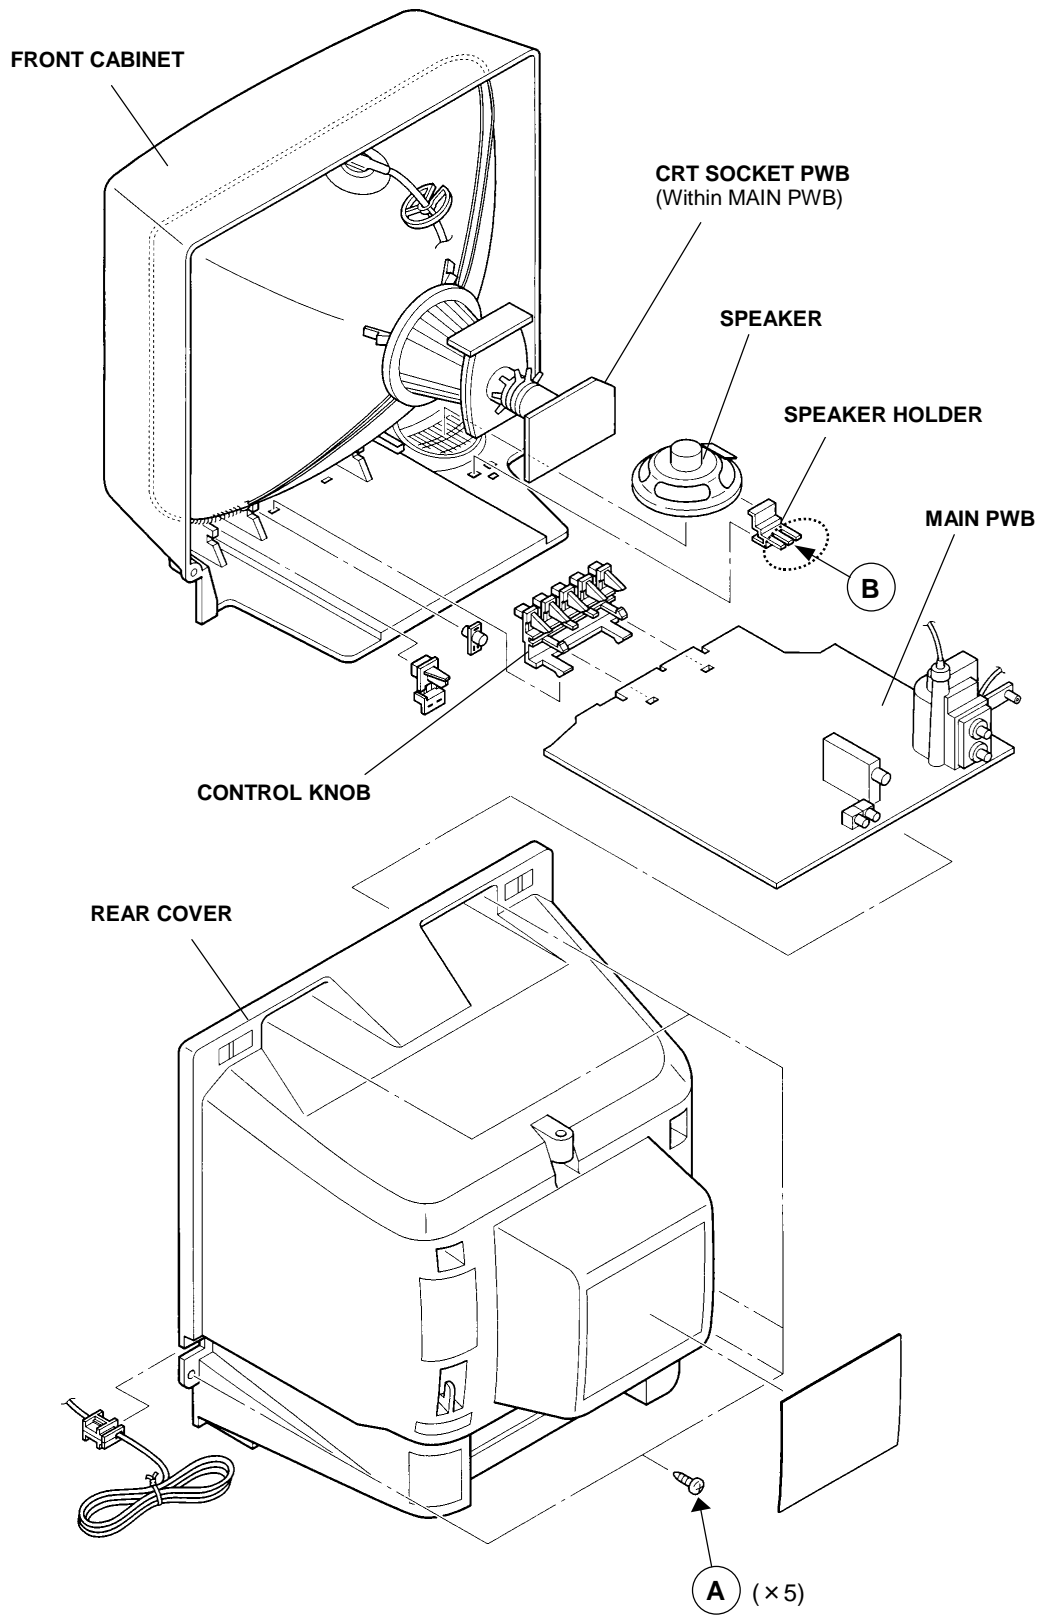

Fig.1
2. Remove the 5 screws marked (A) as shown in Fig.1.
<p>(4) System constant check and setting</p> <ol style="list-style-type: none"> <li>1) Press SLEEP TIMER key and, while the indication of "SLEEP TIMER 0 MIN." is being displayed, press DISPLAY key and VIDEO STATUS key on the remote control unit simultaneously.</li> <li>2) The SERVICE MENU screen of Fig.1 is displayed.</li> <li>3) While the SERVICE MENU is displayed, again simultaneously press the DISPLAY and VIDEO STATUS keys to display the Fig.2 SYSTEM CONSTANT screen.</li> <li>4) Refer to the SYSTEM CONSTANT table and check the setting items. Where these differ, select the setting item with the MENU UP/DOWN key and adjust the setting with the MENU LEFT/RIGHT keys. (The letters of the selected item are displayed in yellow.)</li> <li>5) After adjusting, release the MENU LEFT/RIGHT key to store the setting value.</li> <li>6) Press the EXIT key twice to return the normal screen.</li> </ol>	 <p style="text-align: center;">Fig.1</p>
<p>(7) SERVICE MENU setting Verify what to set in the SERVICE MENU, and set whatever is necessary.(Fig.1) Refer to the SERVICE ADJUSTMENT for setting.</p>